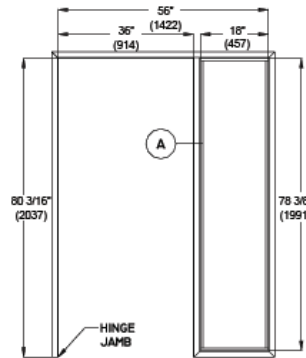

FIGURE 2
(Example: 36" (914) + 2" (51) [mullion] + 18" (457) + 1-1/4" (13) = 57-1/4" (1448) W. (Figure 2)